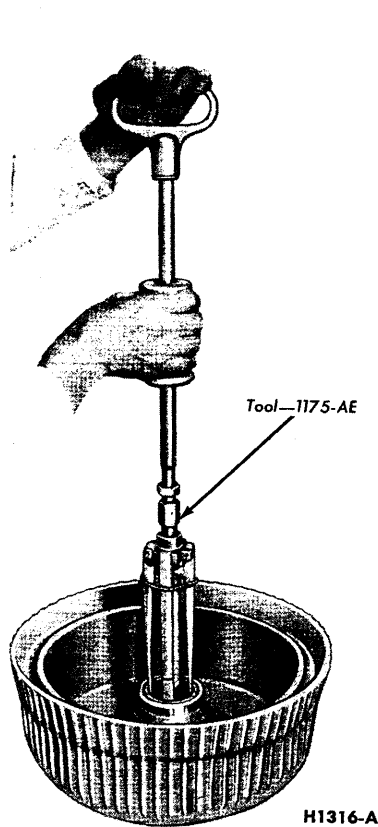

FIG. 6—Removing Grease Retainer
5. Remove the grease retainer (Fig. 6) and the inner bearing cone and roller assembly from the hub.